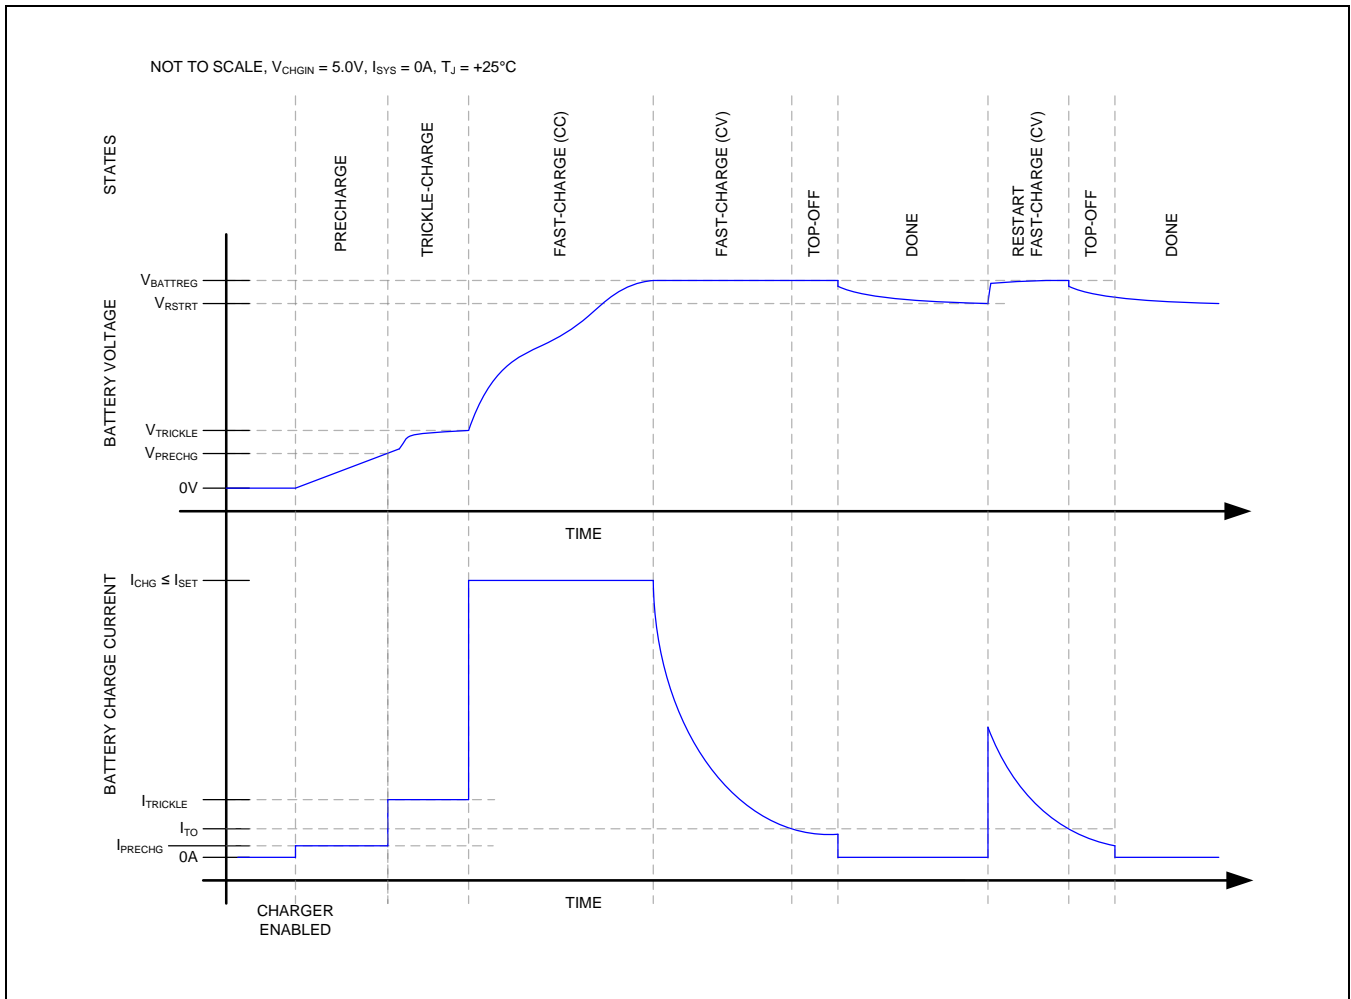
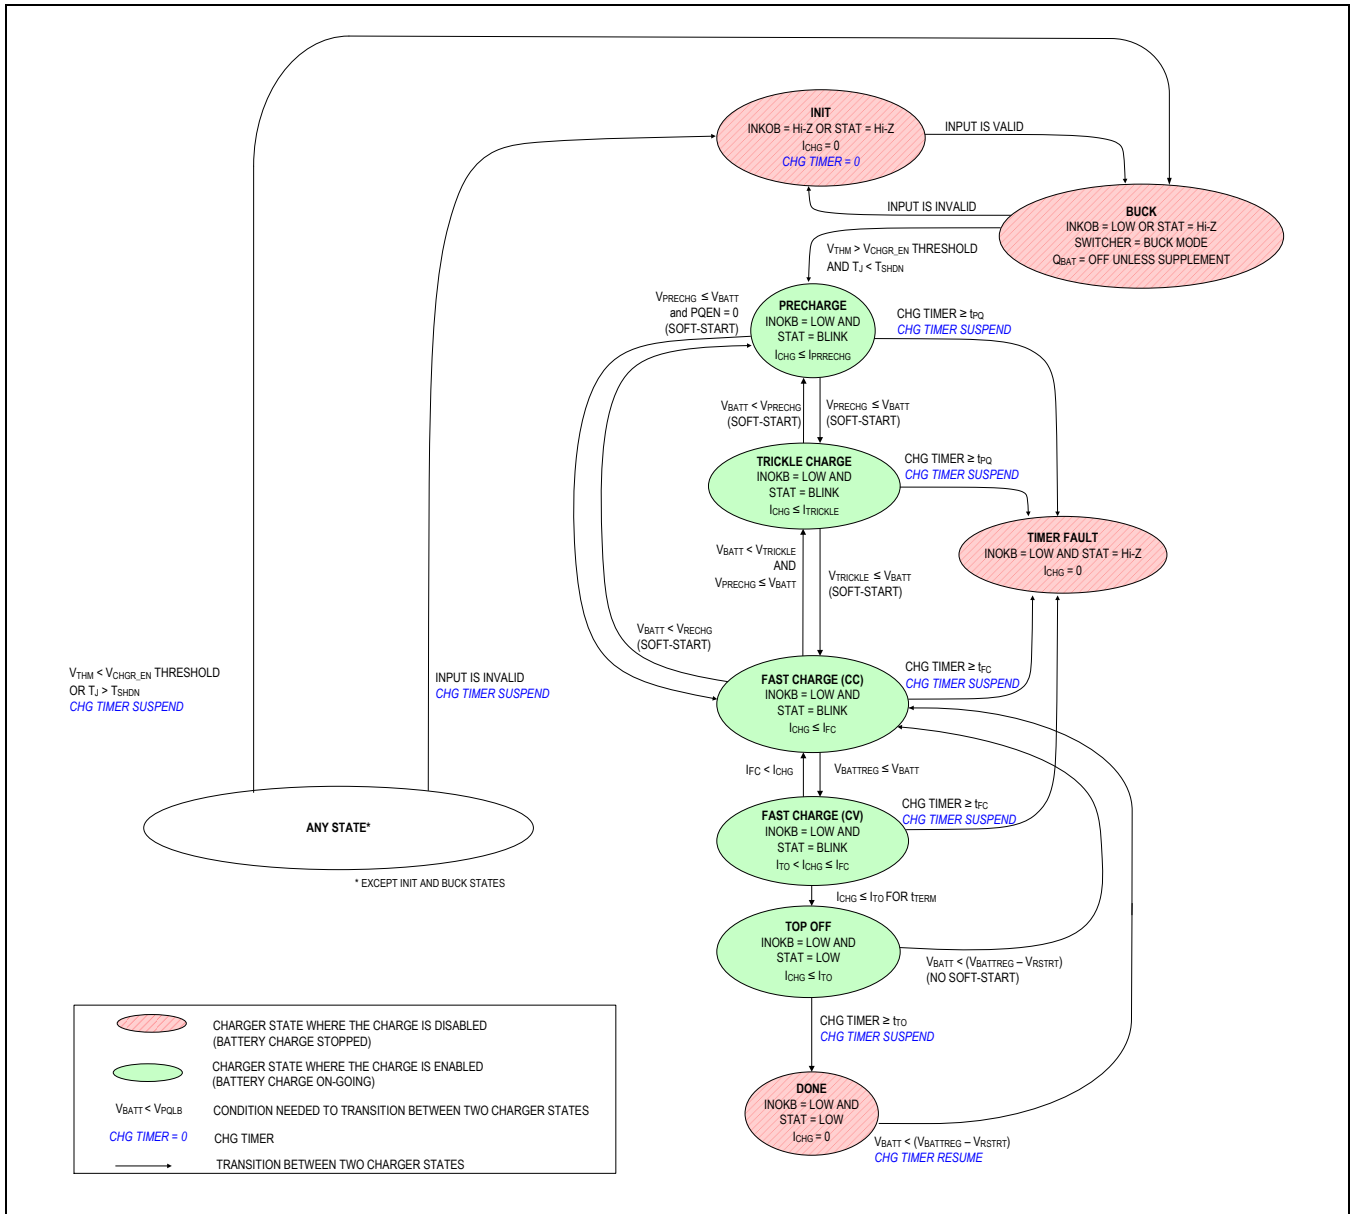

Figure 5. Li+/Li-Poly Charge Profile
Figure 6. Li+/Li-Poly Charger State Diagram
The MAX77757 utilizes several charging states to safely and quickly charge Li+/Li-Poly batteries as shown in Figure 5 and Figure 6. Figure 5 shows an exaggerated view of the Li+/Li-Poly battery progressing through the following charge states when there is no system load and the die and battery are close to room temperature: precharge → trickle → fast-charge → top-off → done.
From any state shown in Figure 6 except thermal shutdown, the “INIT” state is entered whenever the charger inputs CHGIN is invalid or the charger timer is suspended.
In the buck state, battery charging is disabled while the charger input CHGIN is valid. Entering or leaving the buck state is controlled by the voltage of the THM pin. If the voltage of this pin is pulled down by an external device (e.g., MCU) under  $V_{CHGR\_EN}$ , the chip goes to the buck state from any state if CHGIN is valid as shown in Figure 6. Charging is disabled in the buck state, which means  $Q_{BAT}$  is off unless it is in supplement mode. If the voltage of this pin is over  $V_{CHGR\_EN}$ , the chip leaves the buck state and resumes charging. It should be noted that it is only when CHGIN is valid that charging can be enabled or disabled. Therefore, the external device (e.g., MCU) should check the INOKB signal if CHGIN is valid before trying to enable or disable charging.
As shown in Figure 6, the precharge state occurs when the main battery voltage is less than  $V_{PRECHG}$ . In the precharge state, charge current into the battery is  $I_{PRECHG}$ .
The trickle charge state occurs when  $V_{BATT} > V_{PRECHG}$  and  $V_{BATT} < V_{TRICKLE}$ , as shown in Figure 6.
As shown in Figure 6, the fast-charge constant current (CC) state occurs when the main-battery voltage is greater than the trickle threshold and less than the battery regulation threshold ( $V_{TRICKLE} < V_{BATT} < V_{BATTREG}$ ).
As shown in Figure 6, the fast-charge constant voltage (CV) state occurs when the battery voltage rises to  $V_{BATTREG}$  from the fast-charge CC state.
In the fast-charge CV state, the battery charger maintains  $V_{BATTREG}$  across the battery and the charge current is less than or equal to  $I_{FC}$ . As shown in Figure 5, charger current decreases exponentially in this state as the battery becomes fully charged.
As shown in Figure 6, the top-off state can only be entered from the fast-charge CV state when the charger current decreases below  $I_{TO}$  for  $t_{TERM}$ . In the top-off state, the battery charger tries to maintain  $V_{BATTREG}$  across the battery and typically the charge current is less than or equal to  $I_{TO}$ .
As shown in Figure 6, the battery charger enters the done state after the charger has been in the top-off state for  $t_{TO}$ .
The battery charger provides a charge timer to ensure safe charging. As shown in Figure 6, the charge timer prevents the battery from charging indefinitely. The time that the charger is allowed to remain in each of the prequalification states is  $t_{PQ}$ . The time that the charger is allowed to remain in the fast-charge CC and CV states is  $t_{FC}$ . Finally, the time that the charger is in the top-off state is  $t_{TO}$ . Upon entering the timer fault state, STAT becomes Hi-Z.
In the timer fault state, the charger is off. The charger input can be removed and re-inserted to exit the timer fault state (See the “any state” bubble in the lower left of Figure 6).
As shown in Figure 6, the thermal shutdown state occurs when the battery charger is in any state and the junction temperature ( $T_J$ ) exceeds the device’s thermal-shutdown threshold ( $T_{SHDN}$ ). When  $T_J$  is close to REG, the charger folds back the input current limit to 0A so that the charger and inputs are effectively off.